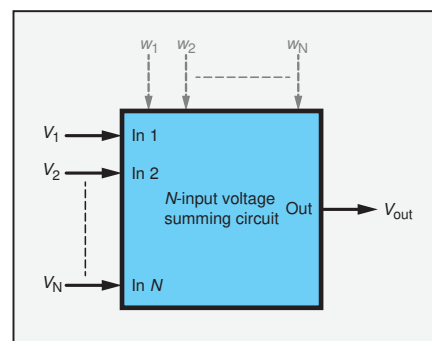

Fig.2. Additive mixer concept and block symbol.
The concept of an additive mixer, or voltage summing circuit, is shown as a block symbol in Fig.2. In its most basic form, this circuit takes any number (N) of input voltages, labelled V_1 , V_2 through to V_N and outputs a voltage, V_{out} , equal to the sum of the input voltages: $V_{out} = V_1 + V_2 + \dots + V_N$. However, each input voltage may be scaled by a weighting